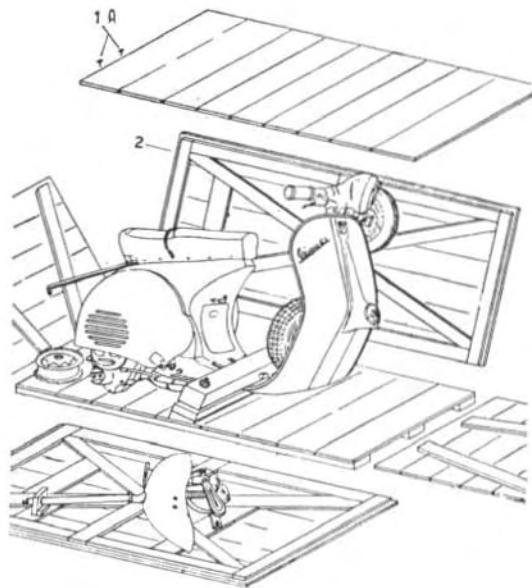
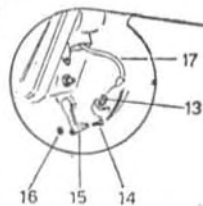

Fig. 21 - Crate for Vespa G.5. with units removed.
Fig. 22 - Assembly of steering column.
— Lift the scooter out of the crate, taking care to avoid bumping or scratching the body, and place it on a stand 90 cm. high (about 3 ft.); the crate itself, turned upside down, may be used for this purpose. (see Fig. 22).
- a) - Undo the screws (Fig. 21, No. 1) and take off the crate cover; empty the tool box, use the hand tools contained therein for removing the parts secured to the long sides of the crate.
- b) - Unnail the left hand long side (Fig. 21, No. 2) release the scooter and take it out from the crate. If no proper working bench is available, nail the long side in position again, turn the crate upside-down, then place the scooter thereon as shown in Fig. 22.
- Grease the lower race (Fig. 22, No. 3) of the top bearing and mount 28 balls (5/32"); grease the lower race (Fig. 22, No. 4) of the bottom bearing and place 19 balls (5/16") thereon.
- Pass the lower end of the brake control through the hole of the adjuster screw (Fig. 22, No. 13) then through the hole in the bolt (14) between the brake links (15); tighten the nut (16).
Very important: When you adjust the front brake control cable, be sure that you leave a large generous loop (Fig. 22, No. 17) from the point where the cable emerges from the steering column to the adjuster screw.
- Undo the two screws (Fig. 22, No. 18) by means of the « T » spanner, place the kickstarter in position; fit the tab plate (19) then secure with the screws.
Also check to insure a proper loop in the brake control cable at the point where it emerges from the lower end of the steering column (Fig. 22, No. 17).